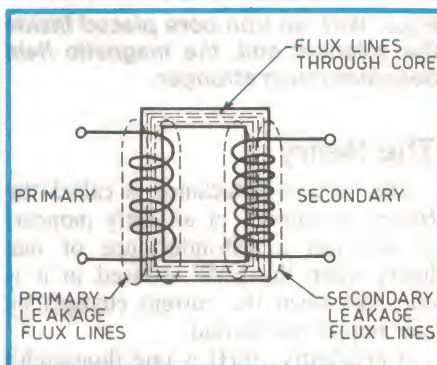

Fig.10: Even though an iron core is coupling two windings, each will have its own 'leakage' field.
(1) **MAGNETIC LEAKAGE:** Some of the flux lines produced by the primary winding current (see Fig.10) 'miss' the secondary winding(s) and take shorter paths. The result is that the voltage output of the transformer is slightly reduced. The primary flux that *doesn't* pass through the secondary is known as *primary leakage flux*. To minimise this effect, the transformer coils are often wound 'on top' of each other (Fig.8).